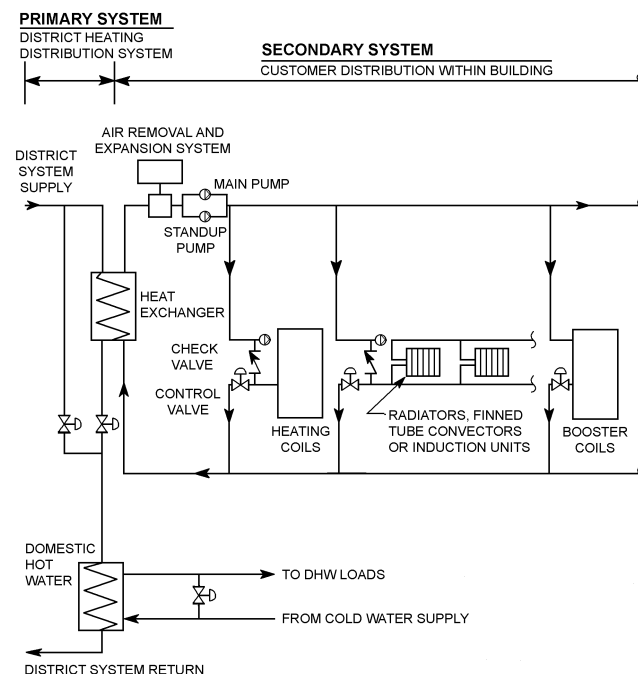

Fig. 22 Basic Heating System Schematic
p. 11.27, Fig. 22. Replace Fig. 22 with the following figure, in which the primary and secondary systems are not shown to be connected.